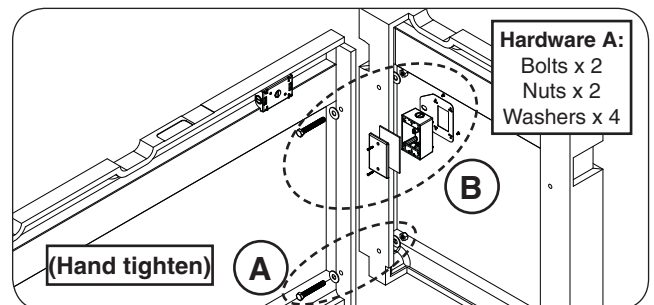
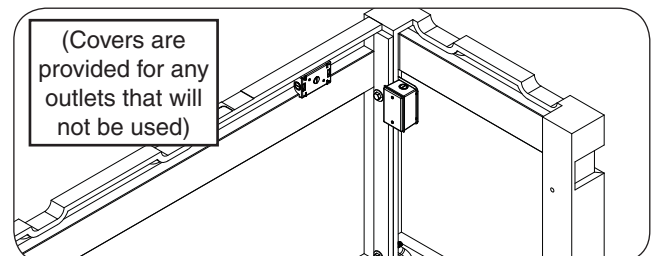

Fig. 9-3 Assemble right side wall and outlet box
Fig. 9-4 Right side wall and outlet box installed
1. Orient the right side wall and repeat the hardware installation process (hardware kit A) for the bottom hardware first. Ensure the top pilot holes are also aligned. Hand tighten only. See Fig. 9-3, A.
An outlet box assembly is provided and requires installation. Assemble the box as shown, then repeat the hardware installation process to secure both the top of the right wall and the outlet box in place. Hand tighten only. See Fig. 9-3, B and Fig. 9-4.